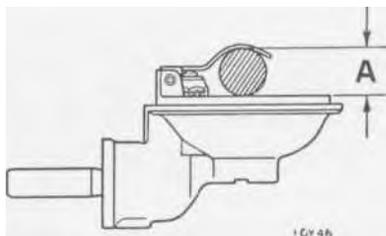

Fig. 29. Adjusting the fuel level.
3. The set of the forked lever is correct, when, with the lid of the float chamber inverted and the shank of the forked lever resting on the needle of the delivery valve, it is possible to pass a 7/16" (11 mm.) diameter rod, see " A " Fig. 29, between the inside radius of the forked lever and the flange of the lower face of the float chamber lid.